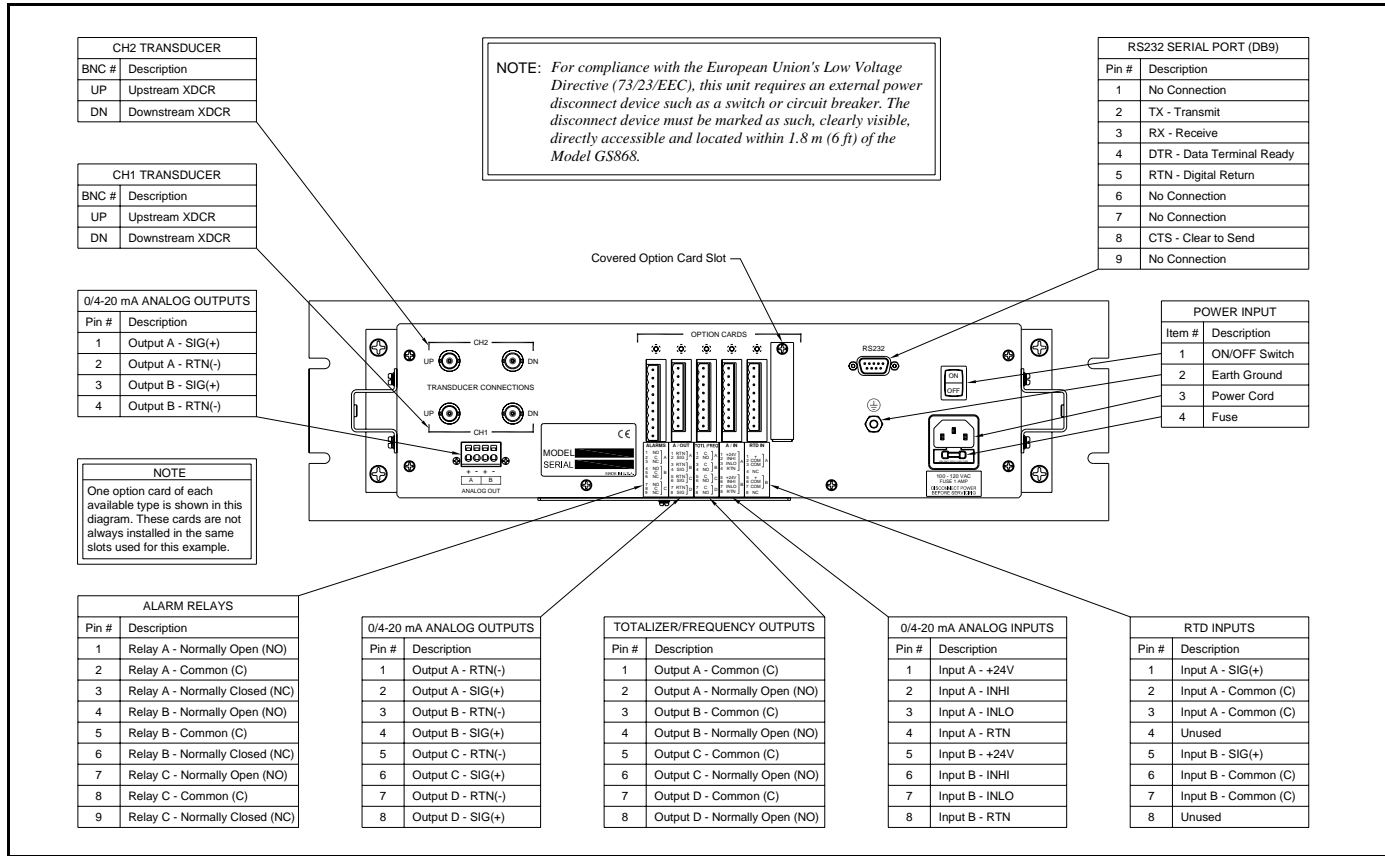

Figure C-2. Model GS868 Rock Mount Enclosure - Wiring Diagram
The rack mount Model GS868 requires exactly the same electrical connections as the standard version. However, the locations and type of connectors used for the various components are different. Refer to Figure C-2 on page C-4 and complete the following steps:
- a. Purchase or prepare a suitable serial cable. This cable should have a standard female DB9 connector, wired as shown in Figure C-2 on page C-4, for connection to the rear panel of the Model GS868. The other end should be as required for the external device.
5. Wire any installed *option cards* using the same procedures described in Chapter 1, *Installation*, of this manual and the pin # assignments shown in Figure C-2 on page C-4.